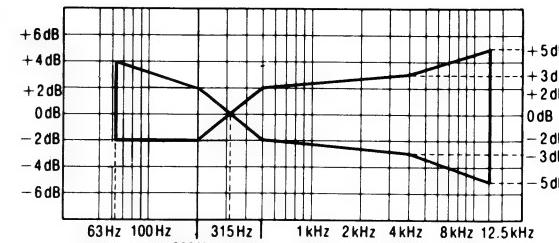

Fig. 6
- Assure that the frequency response is within the range shown in Fig. 6 for both L-CH and R-CH.